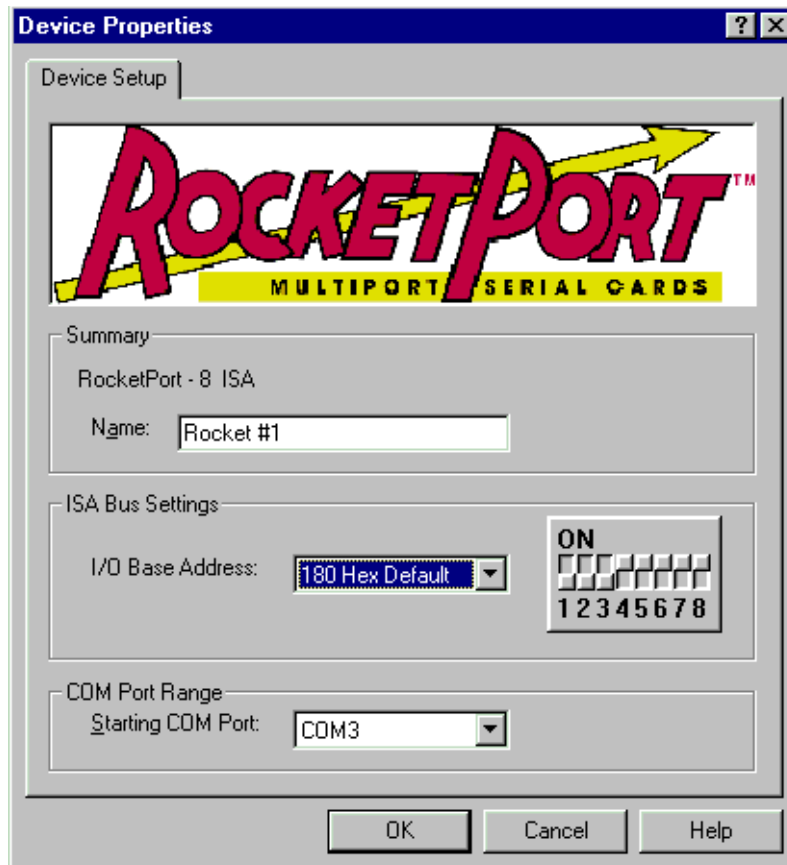

Figure 9. Select COM3 as the starting port.
13. Ensure that the Starting COM Port is set to **COM3** and that the I/O Base Address is set to **180 Hex**, then click **OK** to close the Device Properties dialog box (see Figure 9).